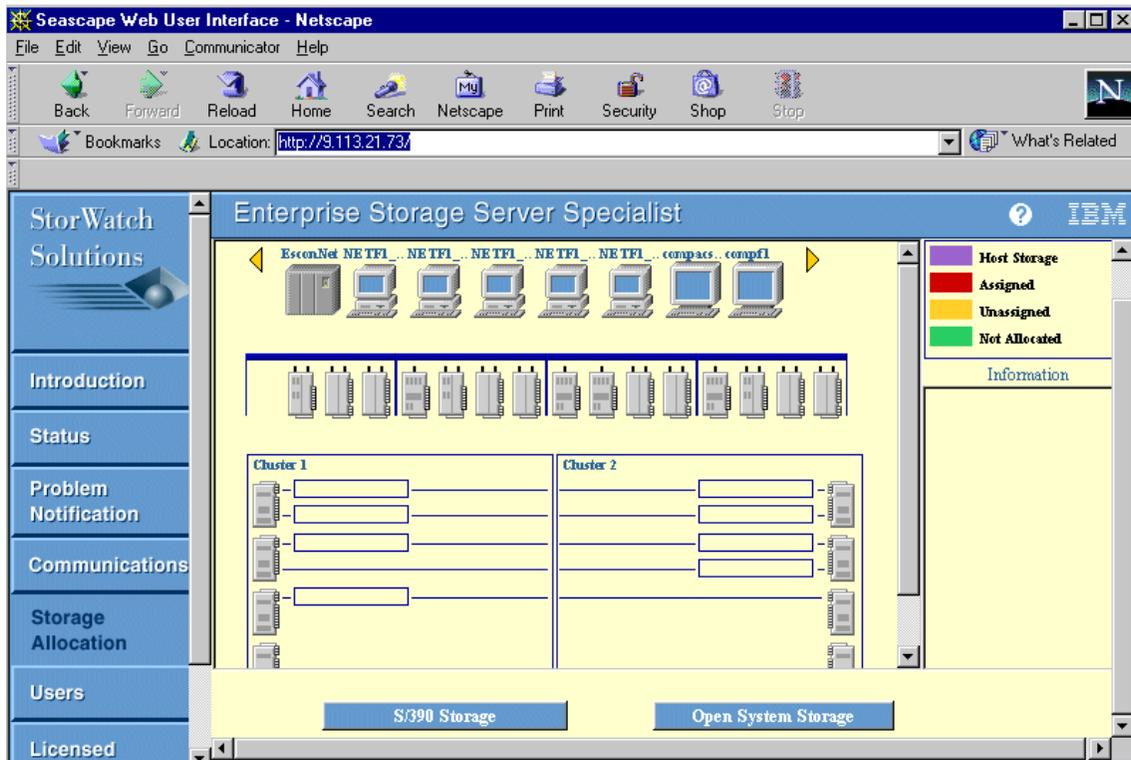

Figure 10. Storage Allocation screen
4. On the logon screen, type in the username and password of an administrator account. The default user is **STORWATCH** and the default password is **SPECIALIST**. After you log on, you should see a similar screen as shown on Figure 10.
2. Click **Open System Storage** (refer to Figure 10 on page 22).